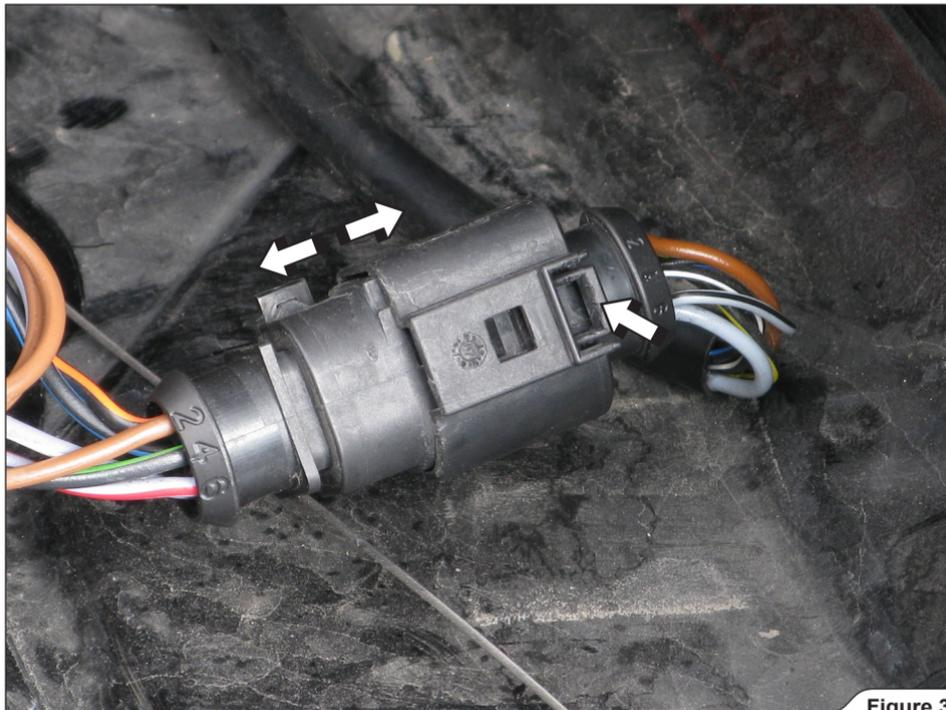

Figure 3
3. For Slip-On, Sports Cup, Evolution, Evolution-Race and SlipOn-Race: undo the lights connectors and remove the tail lights (Figure 3).